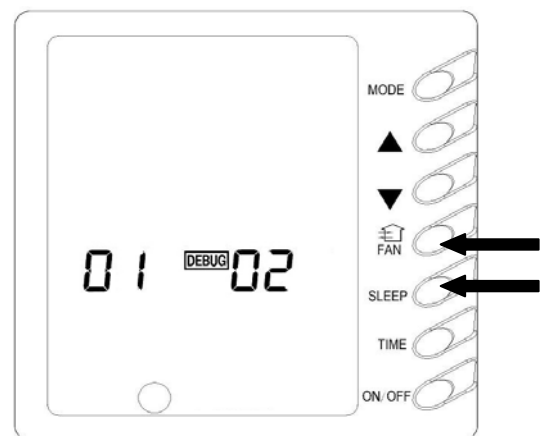

Fig. 12
11) Debugging Function (Fig. 12)